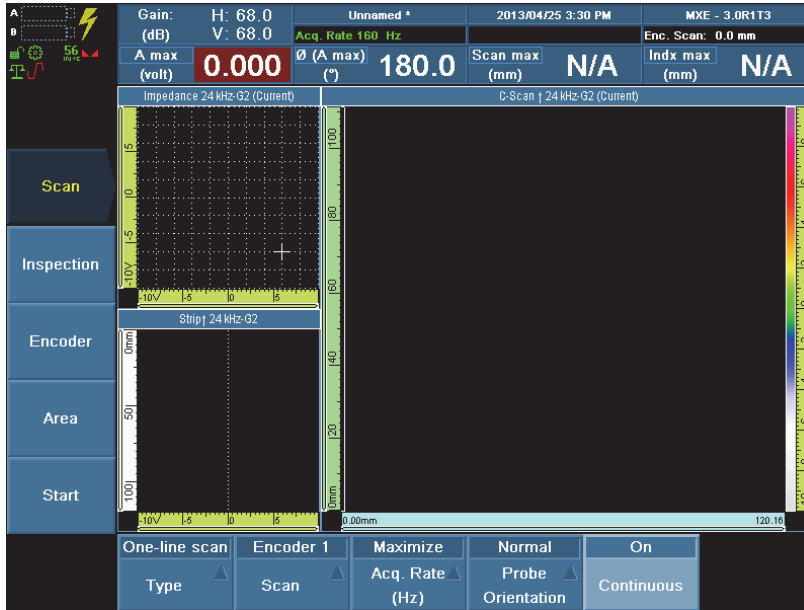

Figure 9-25 Setting the probe encoder to Continuous mode
- Set the encoder to Continuous mode. Select **Scan > Inspection > Continuous = On**, and then press the Accept key to confirm (see Figure 9-25 on page 170).